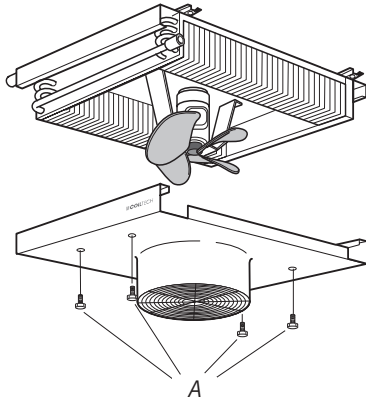

Figure 11. Replacing the motor.
- 2 Loosen the 4 screws A and remove the front of the unit heater as shown in figure 11.
2. Loosen the 4 screws A and remove the front of the unit heater as shown in figure 11.